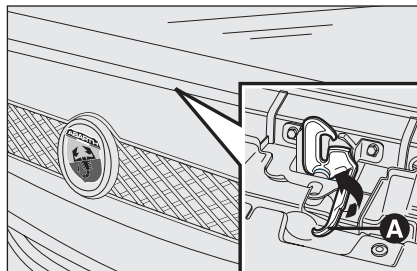

fig. 89
- pull lever **A-fig. 89** as shown in the figure;